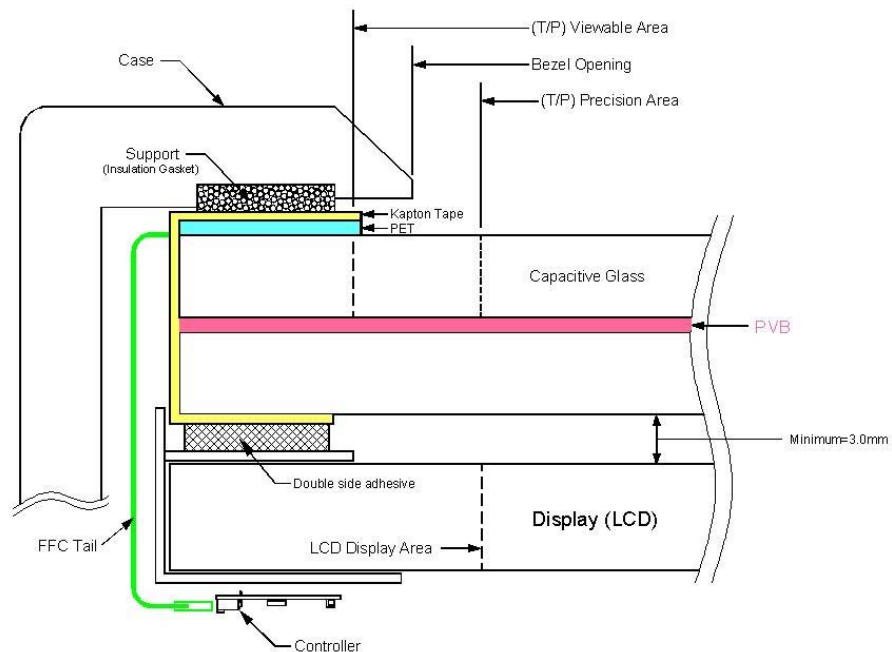

Figure 12-1
- (1) The gasket support of touch panel must be designed on the outside of Viewable area, as well as to avoid pressing on touch panel accidentally, the enclosure must be designed with enough clearance to panel surface. To avoid pressing error on touch panel accidentally, please remain space between the surface of panel and the Bezel. (Figure 12-1)